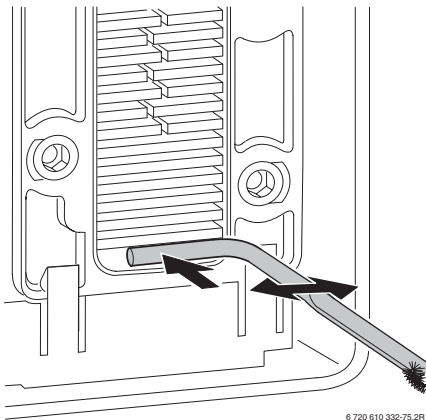

Fig. 50
- ▶ Flush the heat exchanger from the top. Refer to fig. 50.